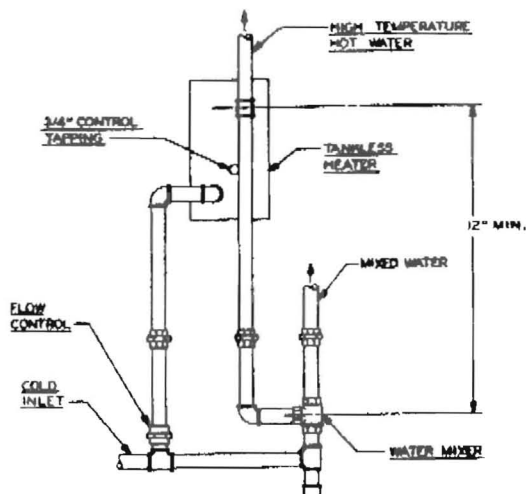

Figure 3.3: Tankless Coil Piping, Steam Boiler
- If a tankless coil is used (item 9), install as pictured. On water boilers, install in opening in front section. On steam boilers, install in opening in rear section. For suggested piping of tankless water heaters refer to Figures 3.3 and 3.4.